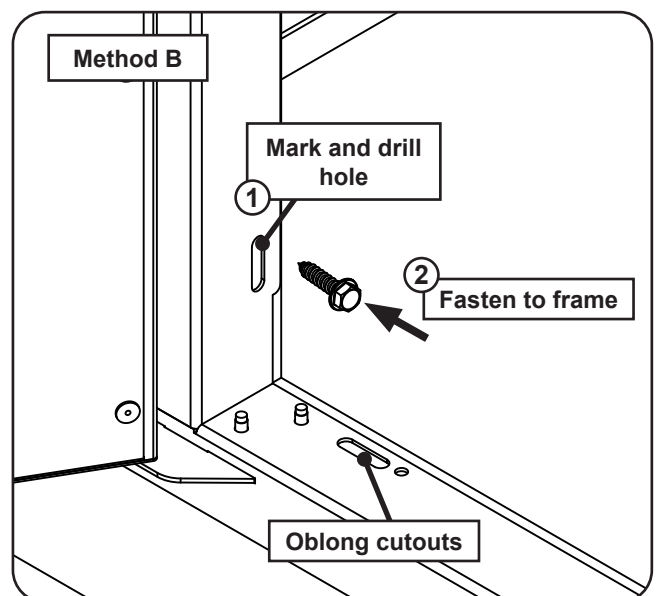

Fig. 3-3 Method B install detail
2. Drill pilot holes for each screw. See Fig. 3-3, step 1. It is recommended to use a #21 drill bit (0.159") to drill pilot holes.
4. Insert a long hex screw and tighten with the power drill and  $5/16$ " hex driver (see Fig. 3-3, step 2). **DO NOT OVERTIGHTEN.**